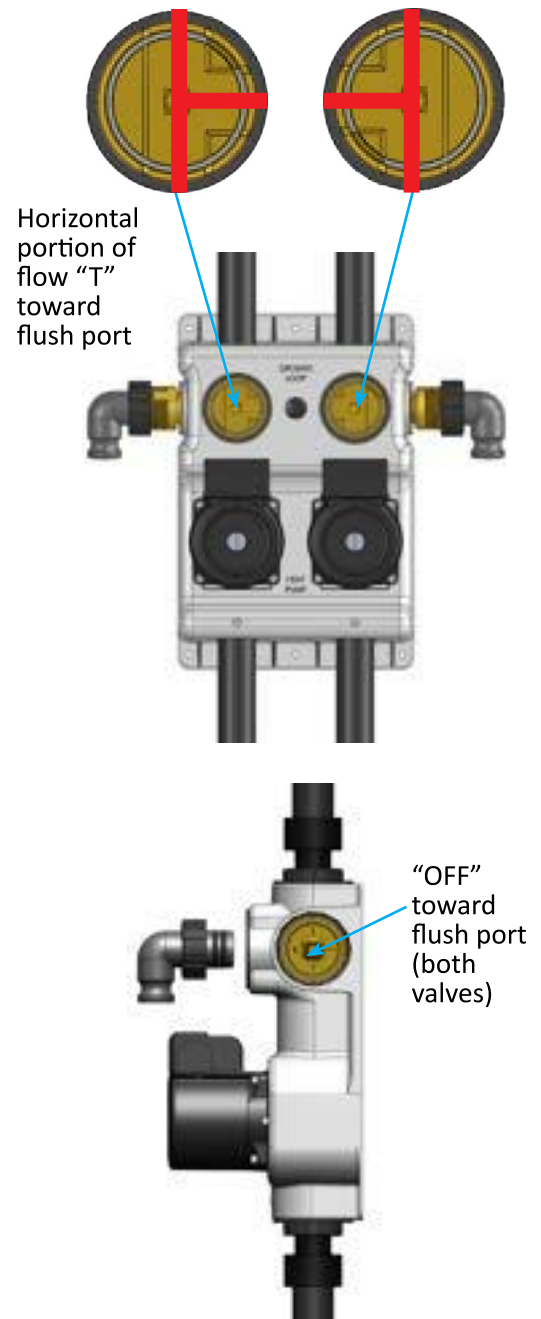

Figure 11: FPT flow center (top) and Flo-Link Double O-ring flow center (below) valve positions in operating position
27. If installing a pressurized system, rotate the 3-way valves so that the flush cart is isolated from the system. Figure 11 shows an example of how the valves may be oriented. This will vary depending on the type of flow center installed.